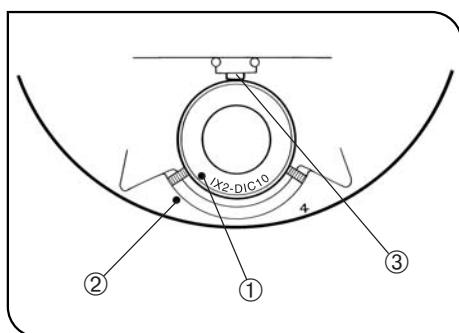

Fig. 44
(Fig. 44)
- Align the positioning index ① on the DIC prism with the positioning index ② on a turret position and insert the DIC prism all the way into the turret position so that the DIC prism's frame hits the bottom of the position and the prism's positioning pin fits into the pin hole. When inserting, push the spring ③ inside the turret slightly sideward. (Fig. 44)